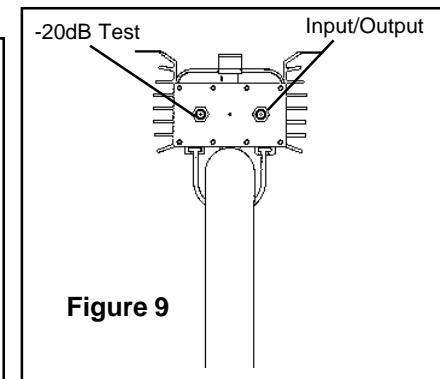

Figure 9
8. Connect the download cable to the input/output on the Transverter. (See Figure 9.)